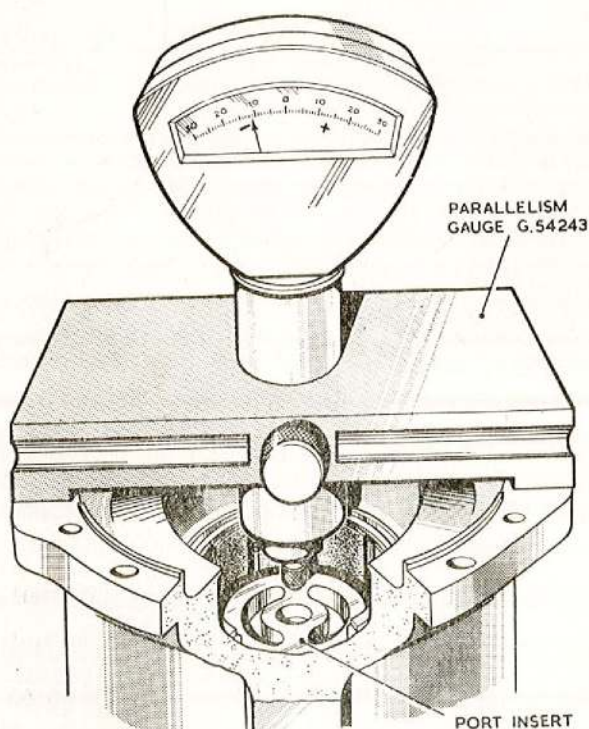

Fig. 20. Checking the parallelism of the port insert
93. To check the parallelism of the insert, place it in the pump body and ensure that it is located correctly on the dowels, then place the test bar and indicator G.64243 on the pump housing face as shown in fig. 20. Check at several points across the face of the insert. If the reading obtained is